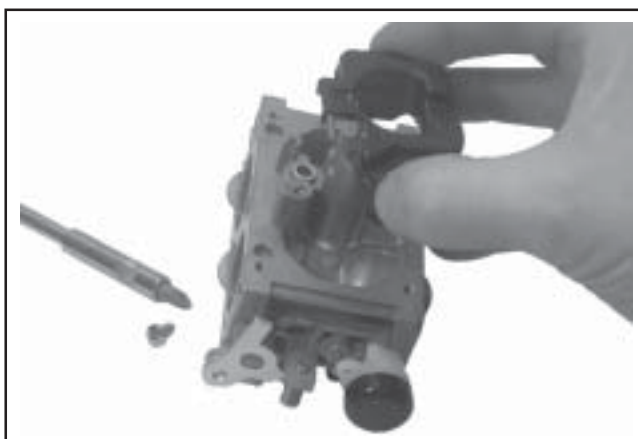

Figure 5-50. Removing Float and Inlet Needle.
2. Remove the float pin screw and lift out the old float, pin, and inlet needle. See Figure 5-50. Discard all the old parts. The seat for the inlet needle is not serviceable, and should not be removed.